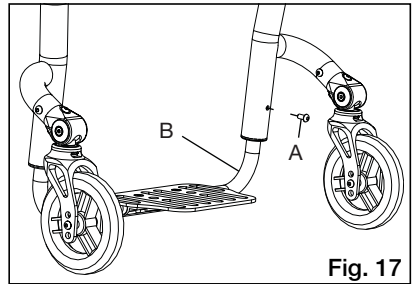

Fig. 17
### Height adjustment of your footrest (Fig.17):
1. Locate the set screw on each side of the frame (Fig. 17:A).
3. Adjust footrest tube up or down to achieve the desired height (Fig. 17:B).